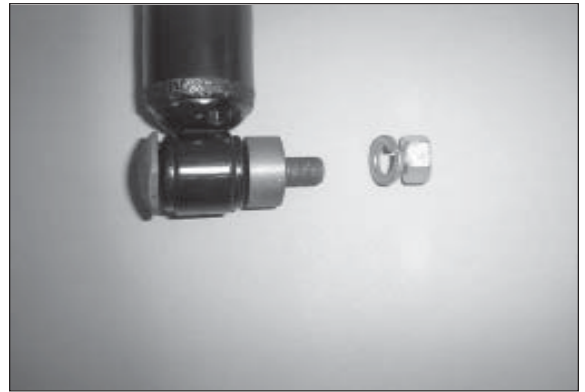

Figure 10
4. Set shock assembly up against the frame. Insert a shock pin through the bottom of the shock. Then add the spacer and insert pin through A-arm hole previously drilled. Attach with washer and nut supplied with shock pin, then tighten finger tight only. (Figure 10)